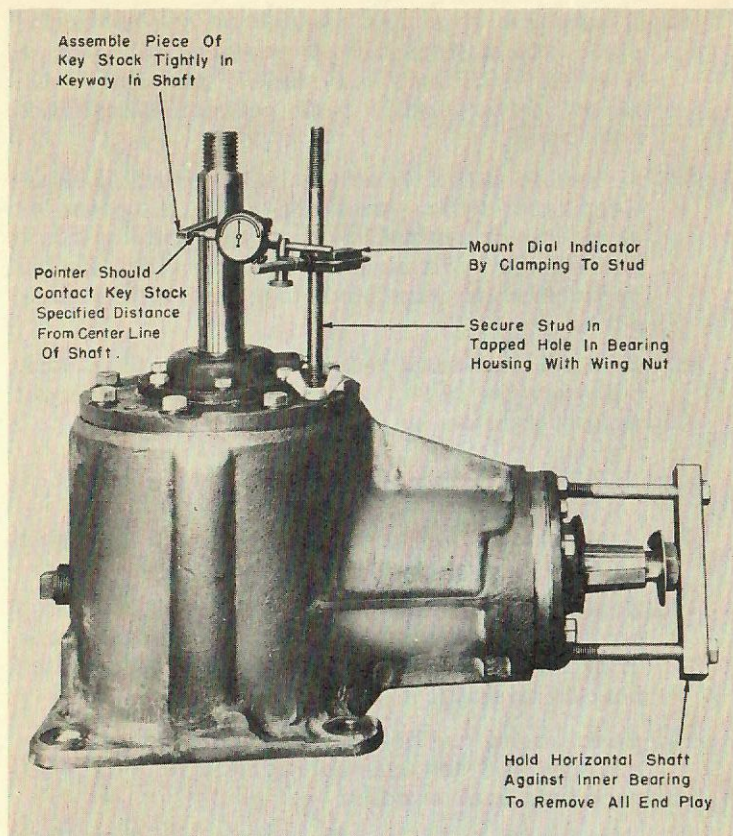

Fig. 6-12
21. Lock horizontal shaft to keep horizontal gear from moving (see Fig. 6-12), and adjust back lash as follows:
18. Lock horizontal shaft to keep horizontal gear from moving, (see Fig. 6-12) and adjust back lash as follows: